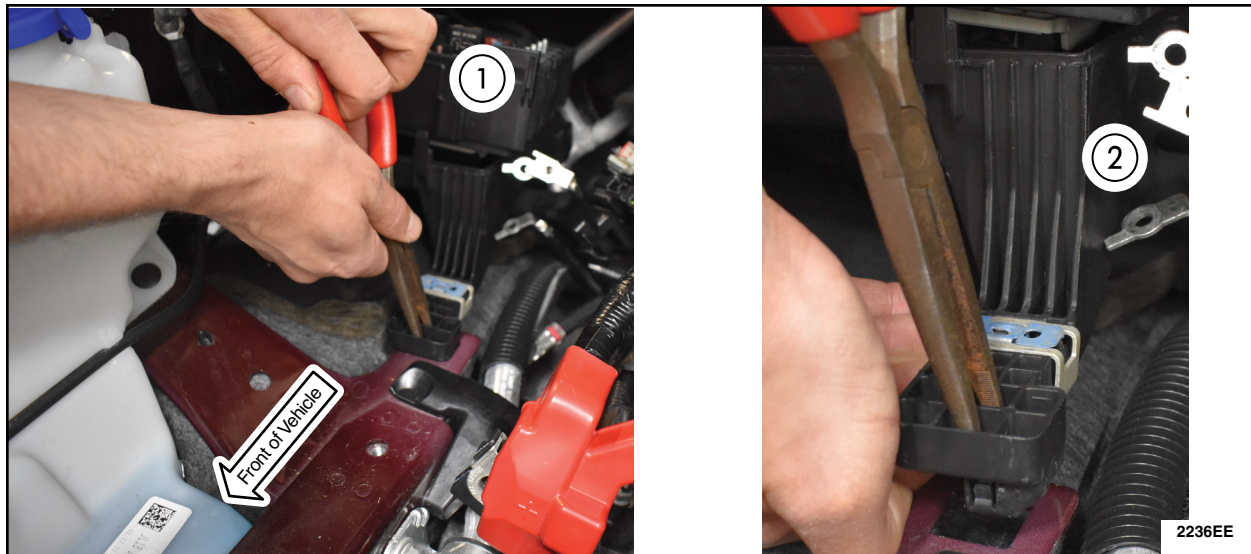

FIGURE 11
11. Release the tab connecting the BJB to the frame. Needle nose pliers will be needed to release the tab. See Figure 11.